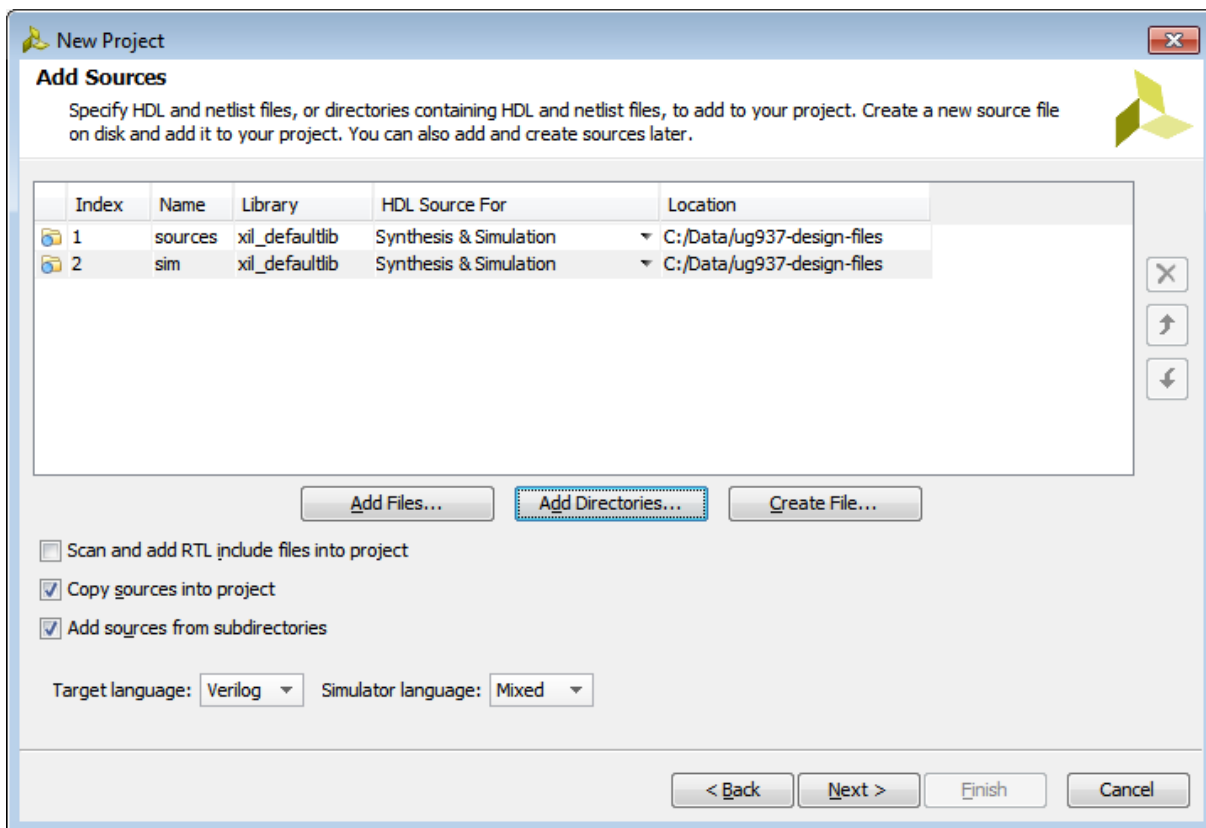

Figure 4: Add Sources
8. Set the **Simulator Language** to **Mixed** as seen in Figure 4.